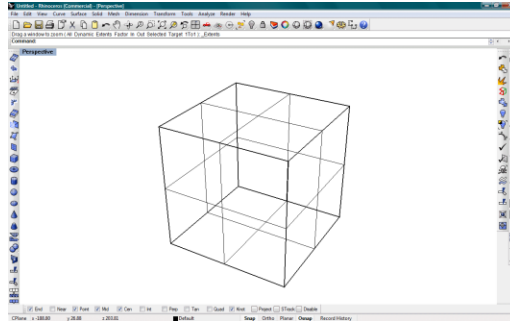

Figure 37: Wireframe view of the box in maximized Perspective viewport.
4. Double-click the **Perspective** viewport title to maximize it (Figure 37).